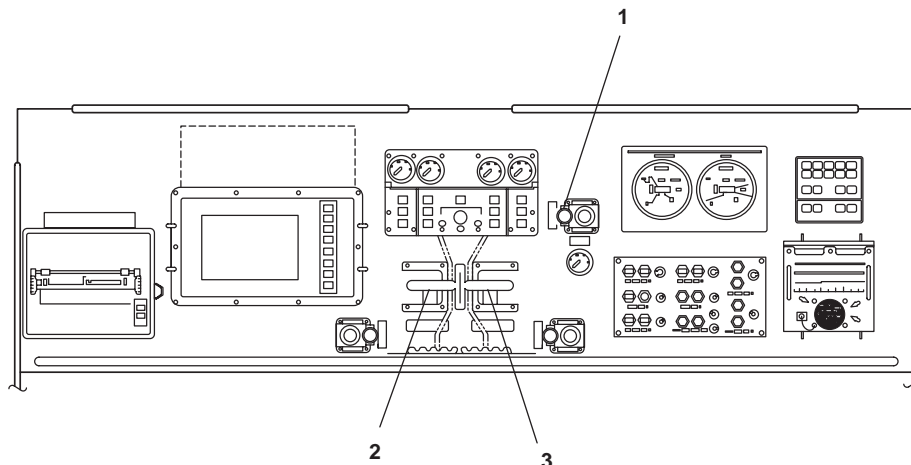

Figure 1. EOS Console
1. At the EOS console, verify that the CONTROL AIR TRANSFER valve (figure 1, item 1) is in the EOS position.
2. At the EOS console, place the STBD MN ENG THROTTLE/CLUTCH lever (figure 1, item 2) in the NEUTRAL (straight UP) position.